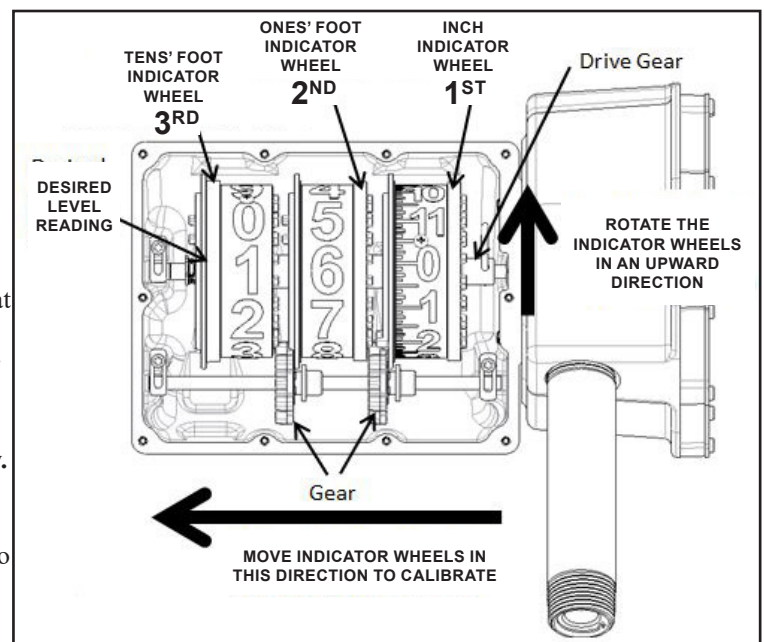
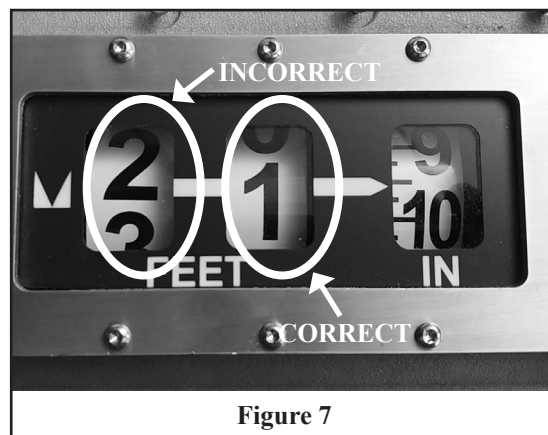

Figure 6
Figure 7
27. Now the gauge can be calibrated to the liquid level you found in step 6. Calibration is done one indicator wheel at a time (See Figure 6). Start with the inch indicator wheel. Grab the indicator wheel and push it to the left to clear the drive gear. The inch indicator wheel must be fully disengaged from the drive gear. The indicator wheel should now freely rotate. Rotate the wheel UPWARDS so that the numbers are counting up. Once at the correct setting, slowly let indicator wheel seat back into the drive gear. Failure to follow this procedure can cause damage to the internal mechanism and render the gauge inoperable. **Note: desired level reading needs to be in the center of the viewing window.**
28. Calibration for the foot readings is done in a similar manner pushing the indicator wheels to the left so they clear the gears that are offset below the indicator wheels (See Figure 6). Calibrate the ones' foot indicator wheel and then the tens' foot indicator wheel. **Note: desired level readings need to be in the center of the viewing window.** See Figure 7 (next page).
30. Reinstall the front cover, the correct settings should be clearly centered in viewing windows, as shown in Figure 7 (next page). If needed, adjust the indicator wheels.